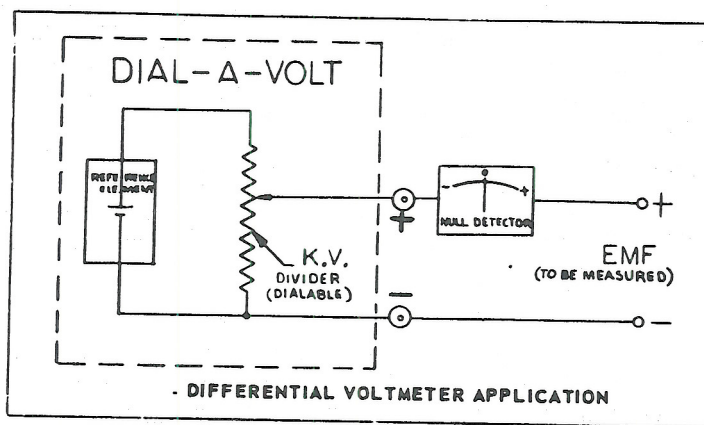

FIGURE 3A
With a null detector placed in series with the output, as in Figure 3A, the Dial-A-Volt becomes a differential voltmeter of high precision. When the Dial-A-Volt in-line decades are adjusted for null, the numerals display the unknown EMF.
An alternate method of voltmeter calibration is to measure an adjustable voltage both with the voltmeter to be calibrated and simultaneously, with the Dial-A-Volt differential voltmeter of Figure 3A. This method precludes any possible error due to loading of the Dial-A-Volt.
1. Connect the Dial-A-Volt and null detector in the differential voltmeter configuration of Figure 3A. Set the output switch to normal, the range switch to 10 volts and the dials as close to the voltage of the standard cell (corrected for temperature) as the number of dials will permit. Allow the Dial-A-Volt a warmup period of an hour or more.